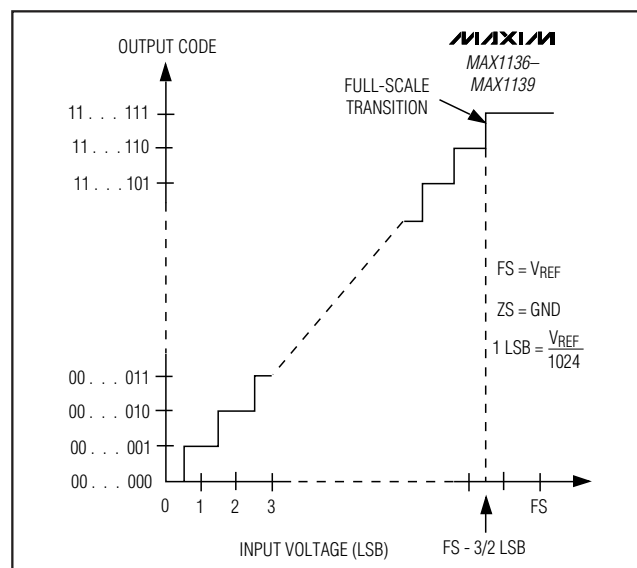
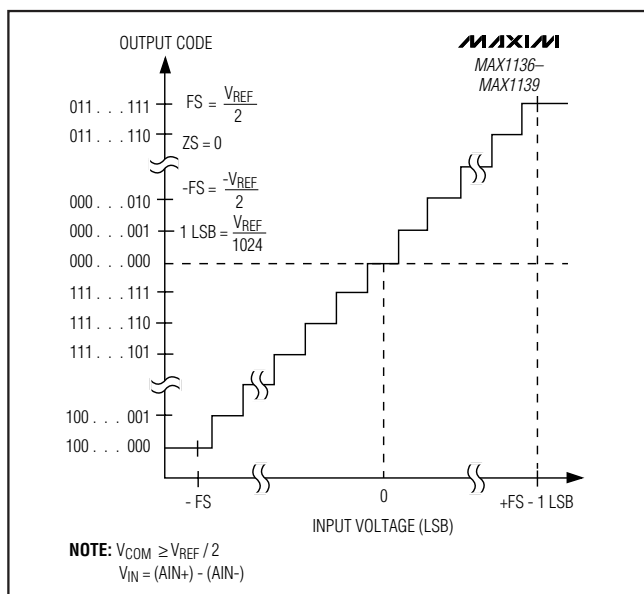

Figure 12. Unipolar Transfer Function
Figure 13. Bipolar Transfer Function
Output data coding for the MAX1136-MAX1139 is binary in unipolar mode and two's complement in bipolar mode with 1 LSB = (V_{REF}/2^N) where 'N' is the number of bits (10). Code transitions occur halfway between successive-integer LSB values. Figure 12 and Figure 13 show the input/output (I/O) transfer functions for unipolar and bipolar operations, respectively.